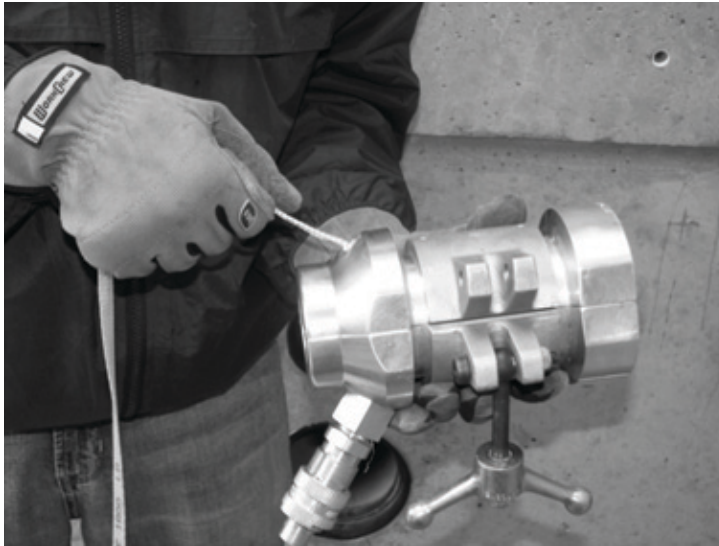

Figure 5 Insert Measuring Tape through 3/8" Rope Adapter
5. Insert measuring tape through the 3/8" rope adapter See Figure 5